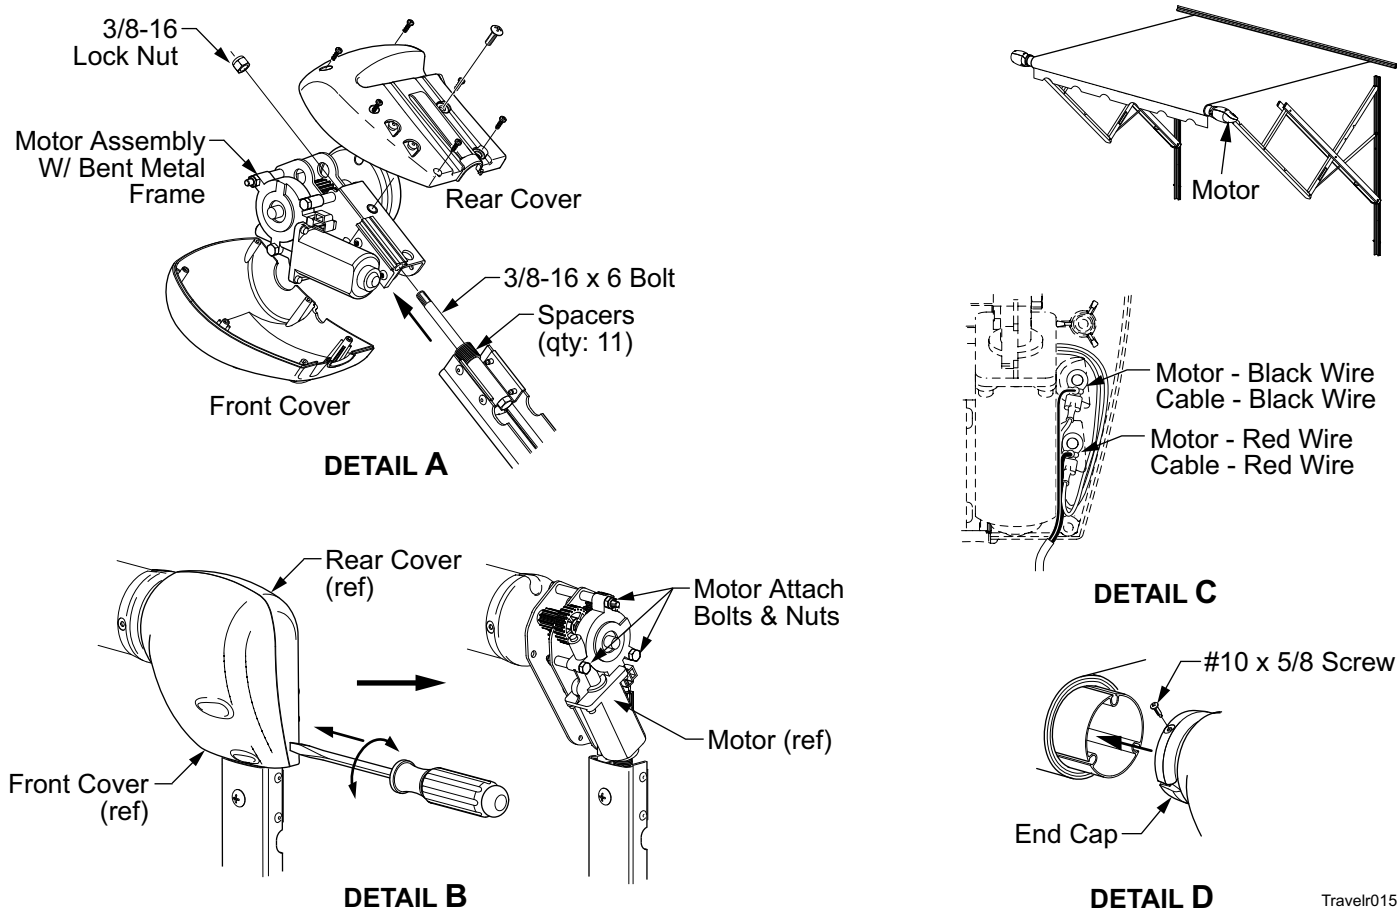

Figure 2. Motor Replacement – Series I.
- 2.3 (refer to Figure 2, Detail B) Firmly hold the motor and idler arms up while removing the three (3) motor attach bolts and nuts.